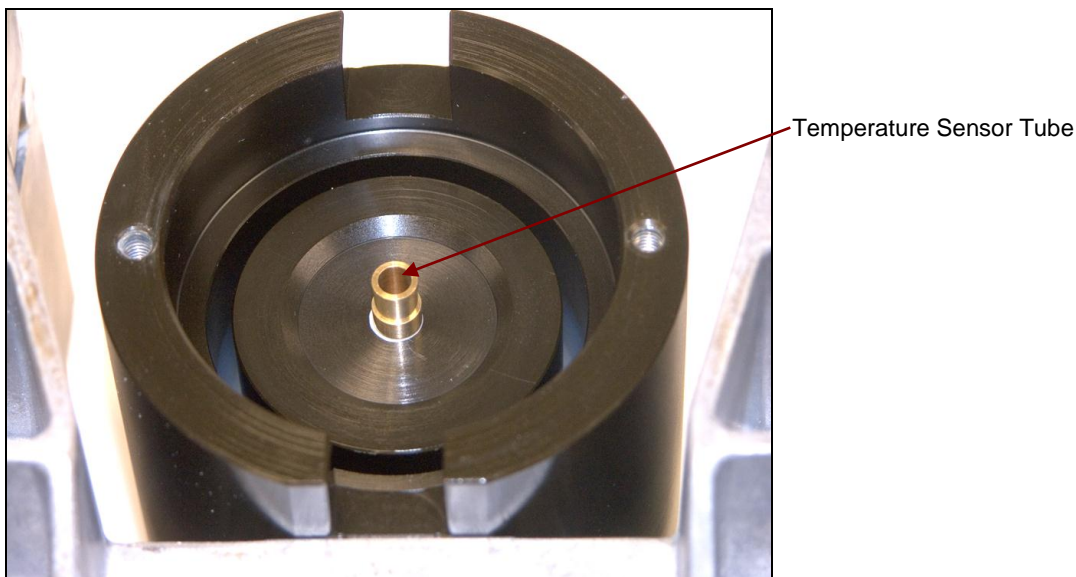

Figure 3-66. Centering Pin from Service Toolset goes into Temperature Sensor Tube in middle of Magnet.
- 5.3. Insert Brass Brackets on both sides. (See Figure 3-66, next page.)